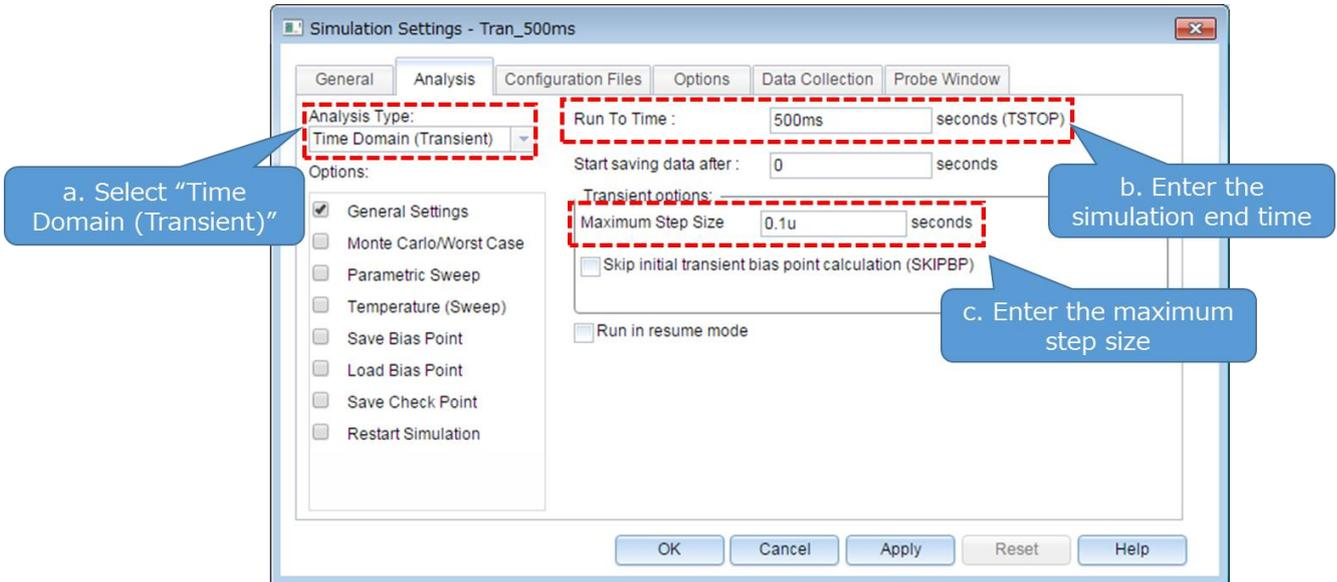

Fig. 5.3 Simulation Settings - Analysis dialog box
- (2) The Simulation Settings dialog shown in Fig. 5.3 appears, which allows you to set various analysis parameters. Select the **Analysis** tab first. Select **Time Domain (Transient)** from the **Analysis Type** drop-down list. Enter an analysis end time in the **Run To Time** field and the maximum step size in the **Maximum Step Size** field.